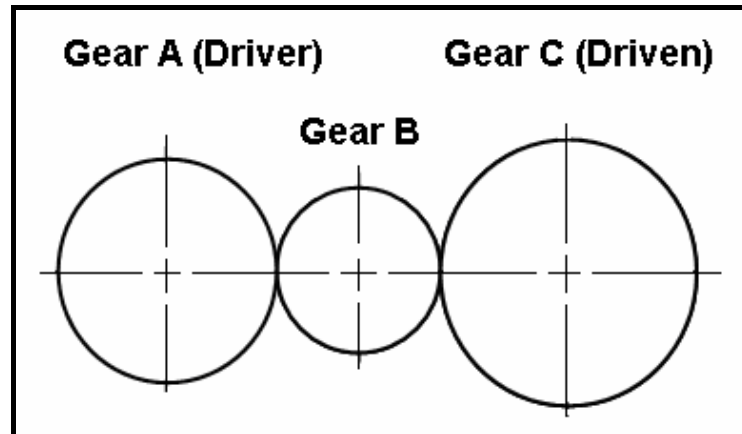

FIGURE 1.7
1.16 FIGURE 1.7 shows three gears meshing. What is gear B called?